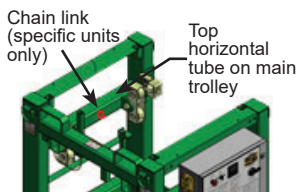

fig. 8.59
- 13- Temporarily hook the second open mesh grip on the top horizontal tube of the main trolley (fig. 8.59). Some S Series standard motorized units are equipped with a chain link welded to the top horizontal tube (shown in red in fig. 8.59) that can be used to hook the open mesh grip.